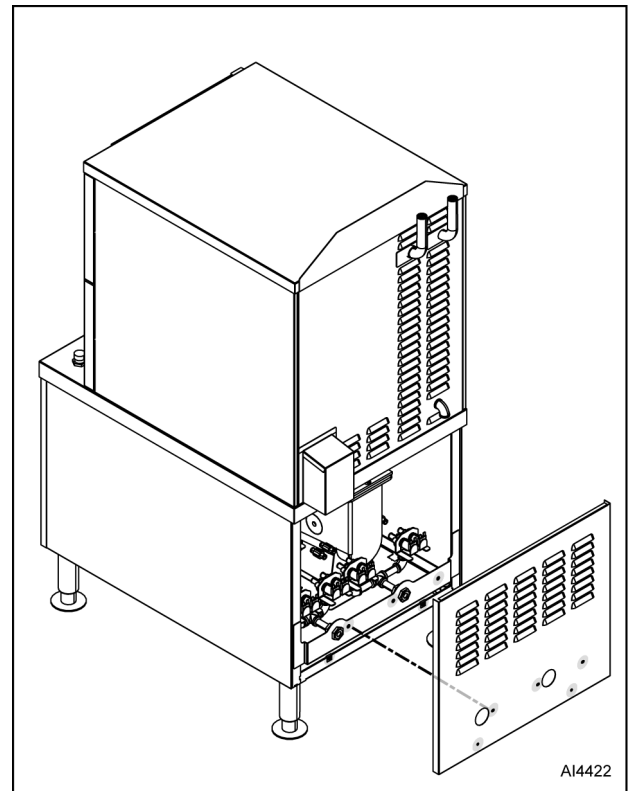

Fig. 7
1. Remove five screws from locations noted in Fig. 7.